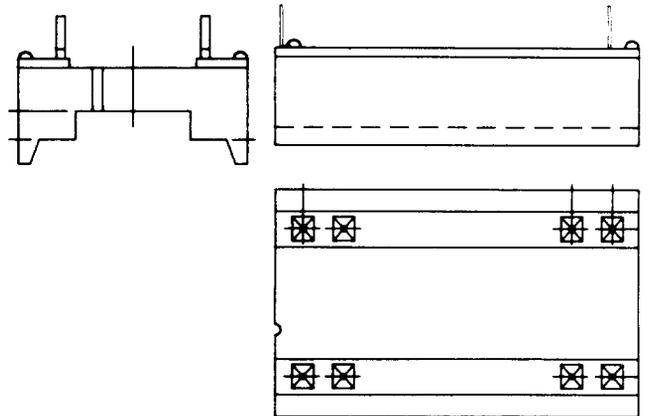

Fig. 13—KS-22320-Type Socket
2.05 KS-22320-Type: The KS-22320-type sockets (Fig. 13) accommodate dual-in-line packages of various row widths and pin counts. The sockets are designed for a maximum of 20 insertion-removal cycles. The contacts are one piece opposing leaf construction and accommodate dip leads that are 0.01 inch by 0.025 inch wide and have at least 50 microinches of gold plating. For more information, see Table C.